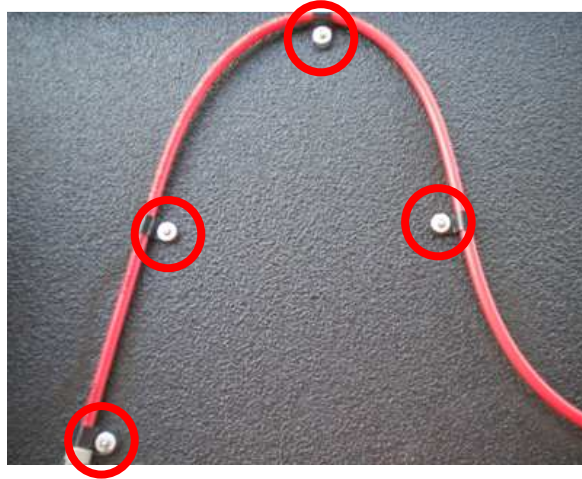

Fig 4 – Fire suppression hose
- e. Using a 1/8 drill bit, drill out all the rivets holding the clamps supporting the fire suppression hose under the UCAP lid on master pack, save the washers and reuse on relocating the red fire line. Fig 4.